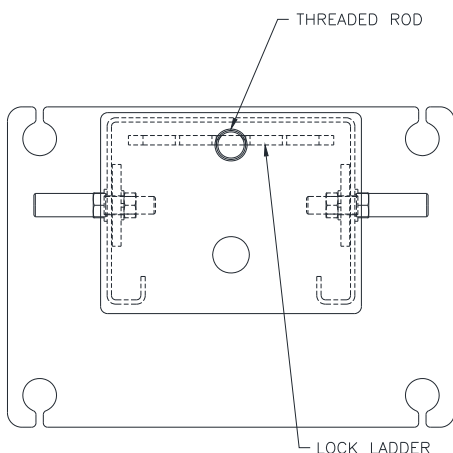

Fig 13 – Locking Ladder Orientation
- 20) Reassembly the lock ladder and top cap to column. Note: the lock ladder is offset from the center of the threaded rod, and orientate per **Fig 13.**